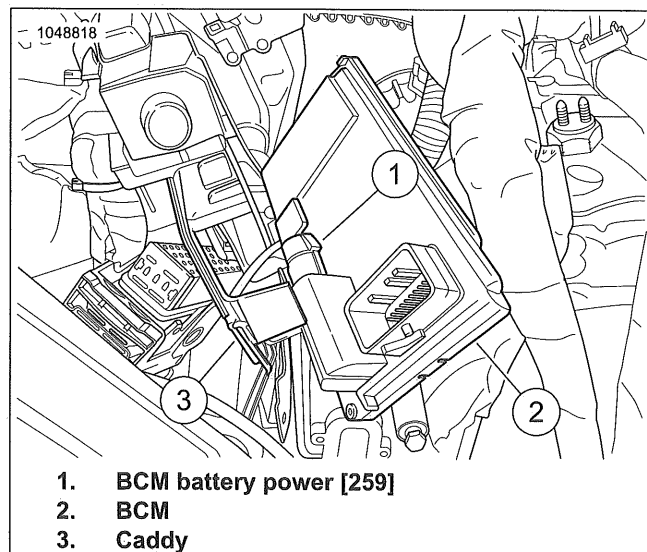

Figure 7-115. BCM [259]
- b. See Figure 7-115. Move BCM out of caddy.
- c. Disconnect BCM battery power [259] (1).
- d. Remove BCM (2).
- a. See Figure 7-115. Connect BCM battery power [259] (1).